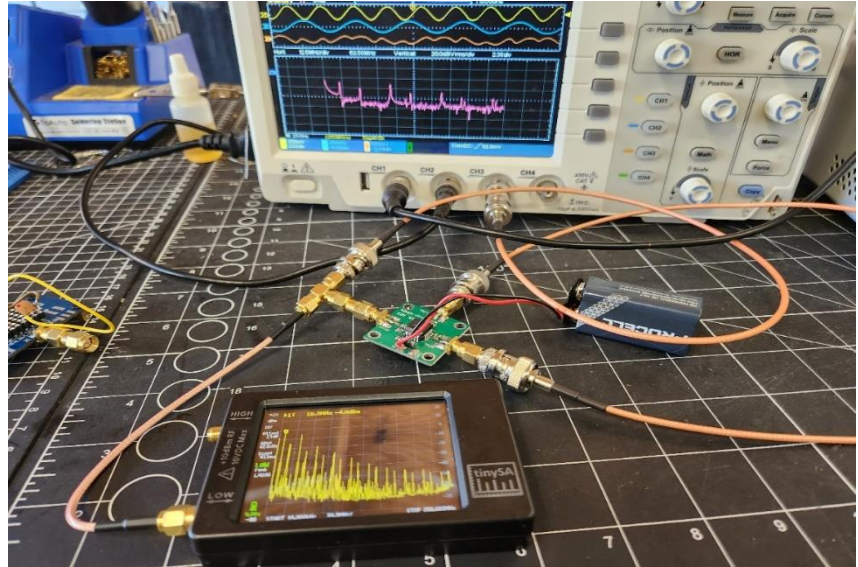

Figure 5: View of scope and spectrum analyzer showing the unfiltered intermediate frequency from the mixer output port.
While the FFT function on the scope shows the discrete frequencies contained in the IF output, an instrument called a spectrum analyzer (SA) provides a better view into what is happening. The SA is the small device (*tinySA*) in the bottom of the image in Figure 5. It can be purchased here.